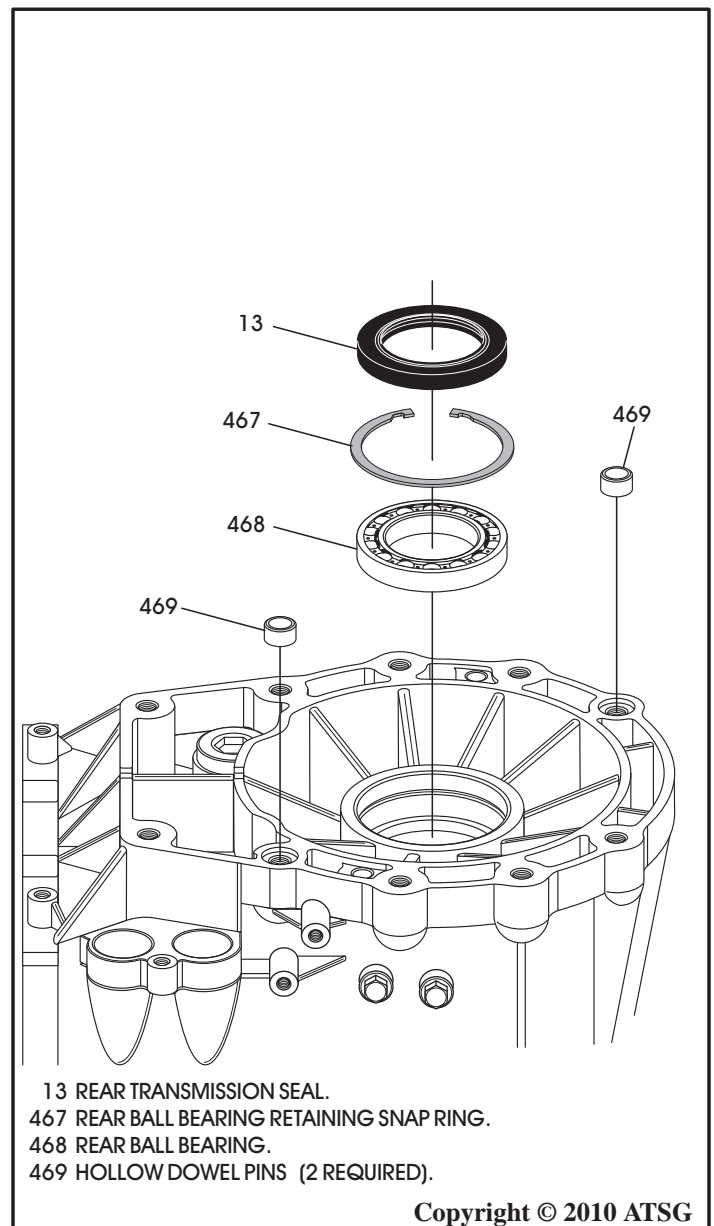

Figure 78
77. Remove and discard the rear transmission seal, as shown in Figure 78.
78. The rear transmission bearing is retained with a snap ring, as shown in Figure 78.